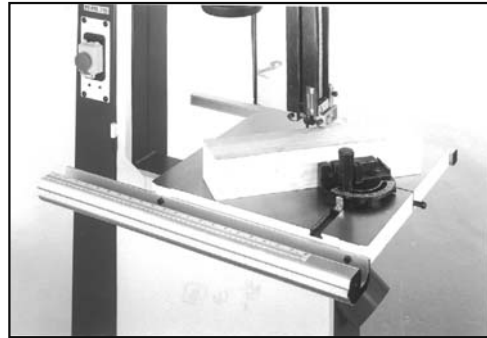

Fig. 16
4. Tighten the clamp screw (Fig. 16).